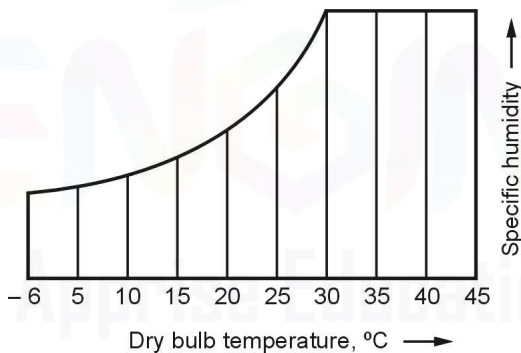

Fig. 5.58 : Dry bulb temperature lines
- These lines are vertical i.e. parallel to the ordinate and uniformly spaced as shown in Fig. 5.58.